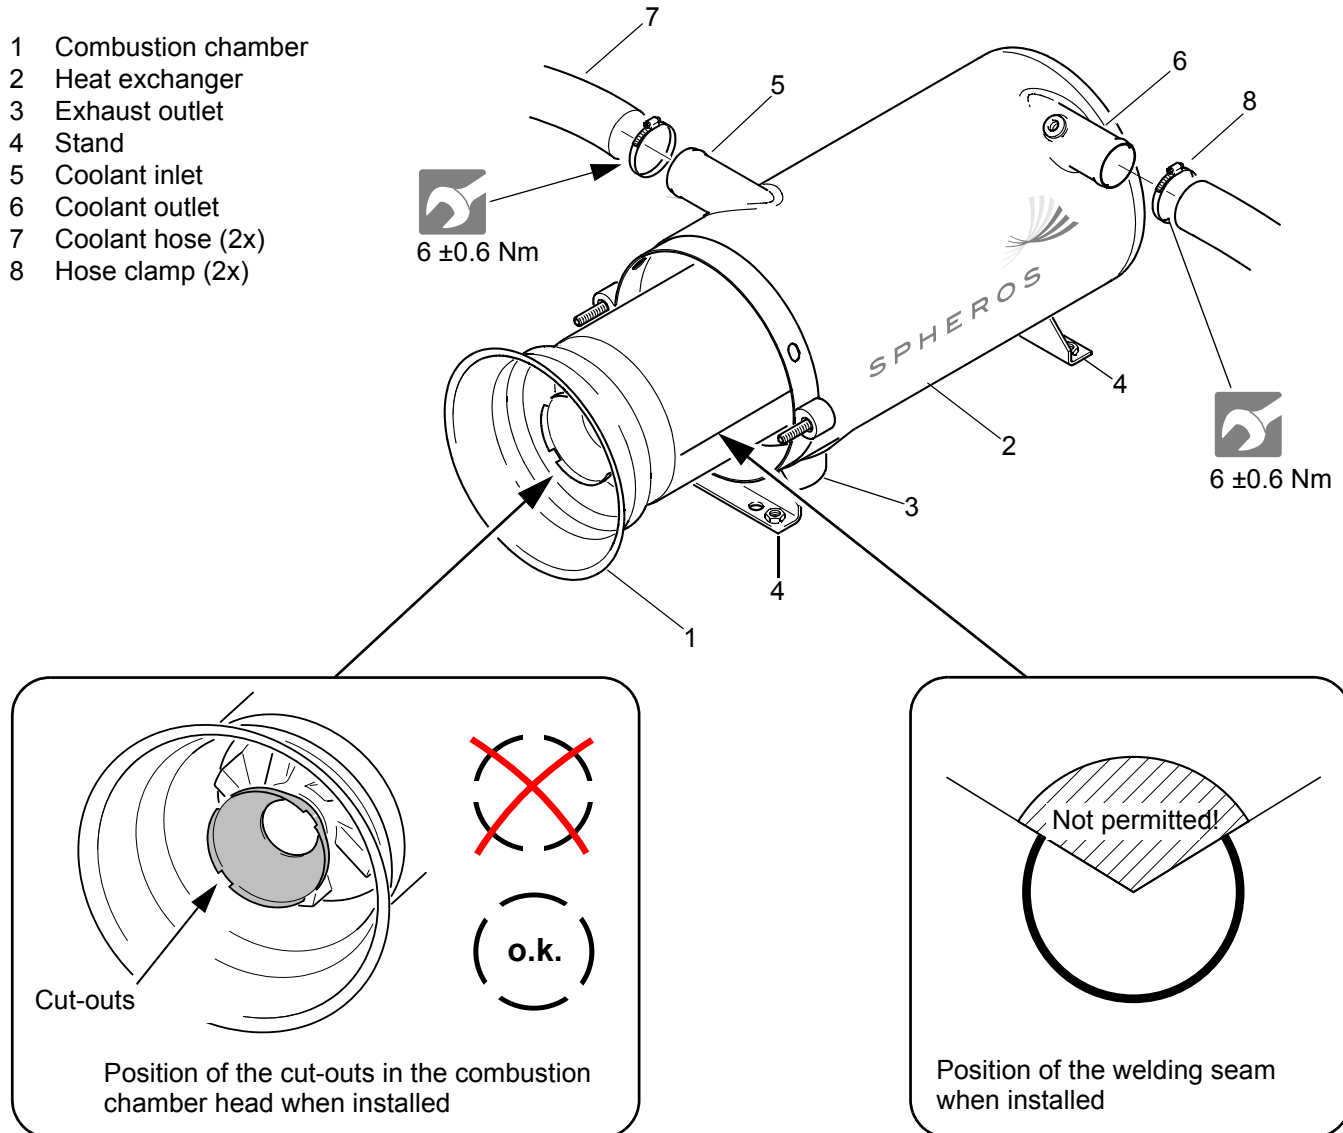

Fig. 807 Combustion chamber/heat exchanger removal/installation
2. Pull combustion chamber (1, Fig. 807) out of the heat exchanger (2).
1. Slide combustion chamber (1, Fig. 807) fully into the heat exchanger (2) against stop. Pay attention to a) the welding seam position, and
- The combustion chamber should be inserted into the heat exchanger in such a way that its welding seam is positioned between 2 and 10 o'clock (not upwards!) (Fig. 807).
- Position the cut-outs in the combustion chamber head as shown in Fig. 807.
3. Pull combustion chamber (1, Fig. 807) out of the heat exchanger (2) (see 8.11).
4. If necessary, loosen the exhaust line clamp on the exhaust outlet (3).
1. Bring heat exchanger (2, Fig. 807) into installation position and mount stand (4) using screws, nuts and washers to the vehicle according to the mounting points used.
2. If necessary, secure the exhaust line using a clamp to the exhaust outlet (3).
3. Fit coolant hoses onto the coolant inlet (5) and the coolant outlet (6) and secure with hose clamps.